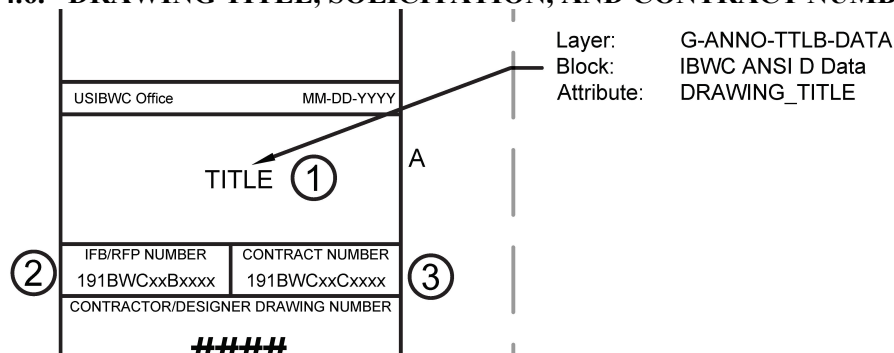

Figure 28-USIBWC Border: Drawing Title and Solicitation/Contract Numbers
4.6. DRAWING TITLE, SOLICITATION, AND CONTRACT NUMBER (FIGURE 28)
4.6.A. Figure 28, Item 1 - Drawing Title
4.6.B. Figure 28, Item 2 - Construction Solicitation Number
4.6.C. Figure 28, Item 3 - Construction Contract Number
4.7.A. Figure 28, Item 1 - Drawing Number
4.7.B. Figure 28, Item 2 - USIBWC Drawing Number